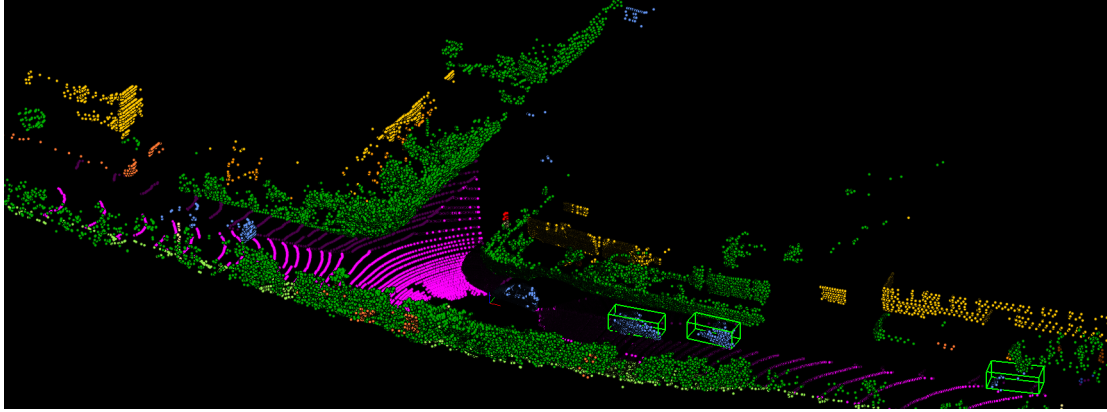

Figure 4: An example of a LiDAR point cloud visualized in 3D using a modified version of the provided **3dvis.py**.
3. Use and modify **3dvis.py** to visualize the scene in 3D. Color each point according to its semantic label and draw all 3D bounding boxes within the scene. Looking at the results, assuming that the semantic labels are all correct, how many cars did our network fail to identify that lie within the camera field-of-view? A reference solution can be seen in Fig. 4.